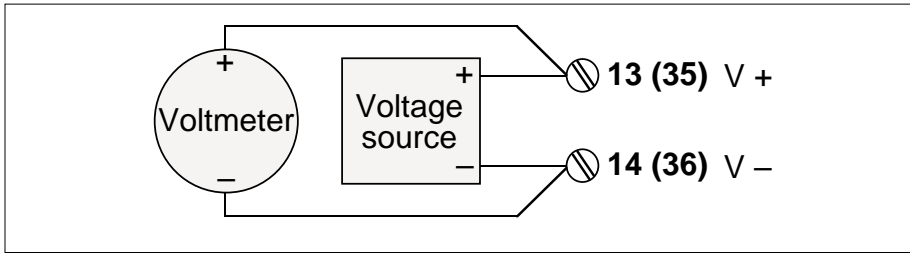

Figure 13-2 Voltage/current input calibration setup
- 5 Connect the 0-10V voltage source to the appropriate input terminals, observing correct polarity. Figure 13-2 shows the setup, giving both main board and expansion board I/O terminal numbers. Apply either 1V, 5V, or 10V according to the input range being calibrated —use 1V for 0-20mA and 4-20mA ranges, 5V for 1-5V ranges, or 10V for 0-10V ranges. Then increment ST's value to '2'.
- 5 Connect the 0-150 mV voltage source to the V+ and V- terminals, observing correct polarity. Figure 13-2 shows the setup. Apply 150mV, then increment ST to '2'.